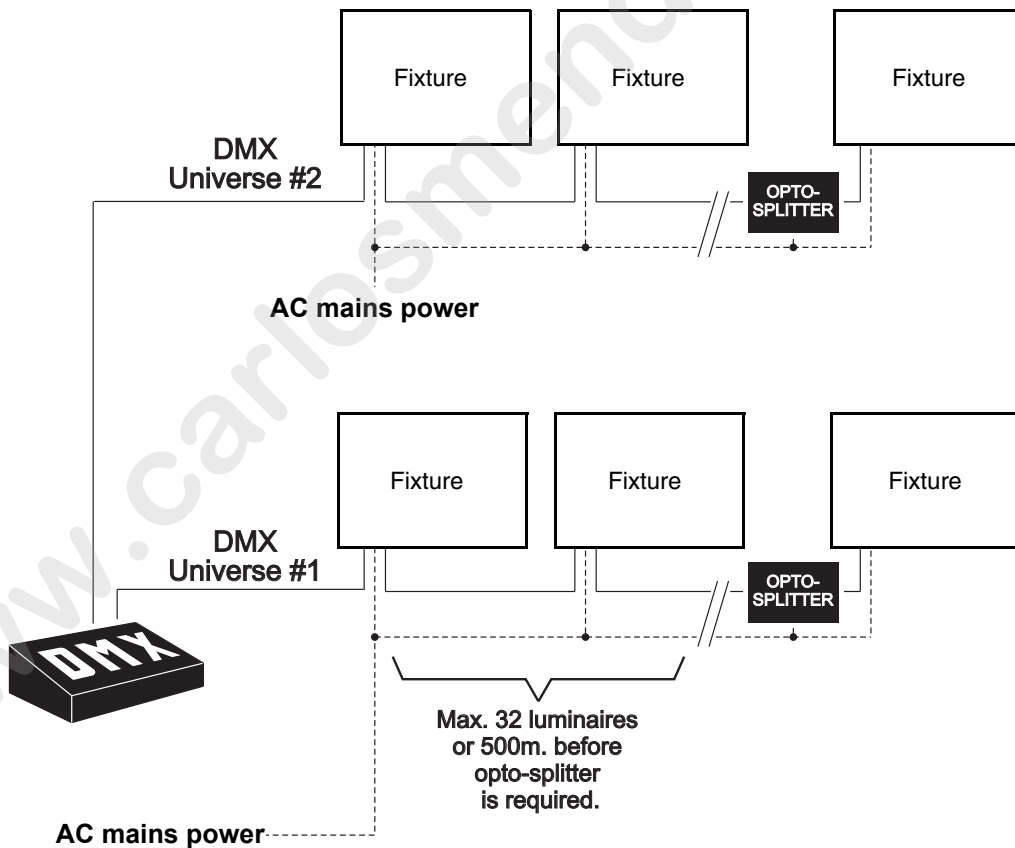

Figure 8: Schematic cable layout diagram
Figure 8 gives an overview of a suitable cable layout. The dotted lines represent AC mains power circuits. The solid lines represent the data link.
See Figure 8 on page 15 for a schematic diagram of cable layout. If you require help in planning or dimensioning the power distribution system, please contact your Martin supplier for assistance.
- Fixtures must be 'daisy-chained', i.e. the data cable must be connected in one single chain of fixtures as shown in Figure 8 on page 15.